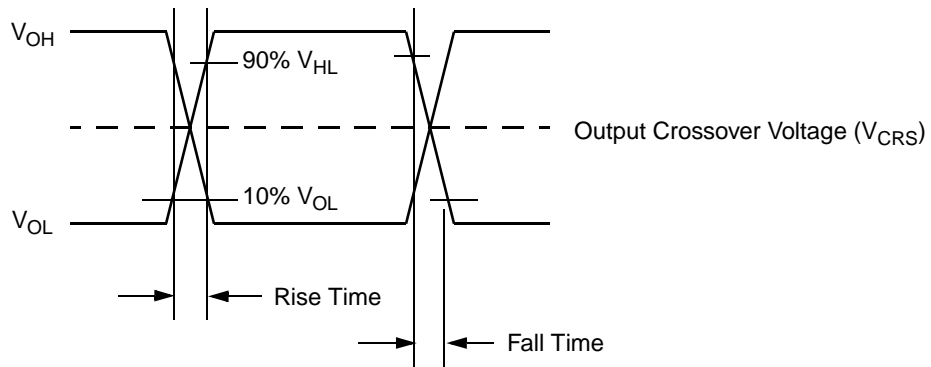

Figure 7-8. USB Output Parameter Definition
- Note 1. Rise time and fall time defined in Figure 7-8 "USB Output Parameter Definition" on page 560.